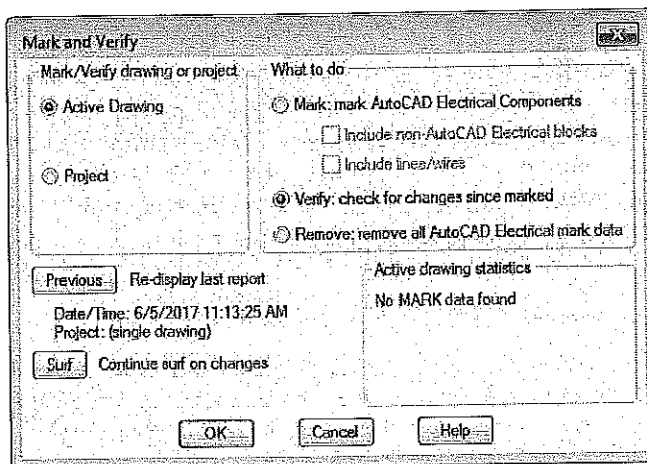

Figure 13-52 The Mark and Verify dialog box
1. Choose the **Mark/Verify DWGs** tool from the **Project Tools** panel of the **Project** tab; the **Mark and verify** dialog box is displayed, as shown in Figure 13-52.